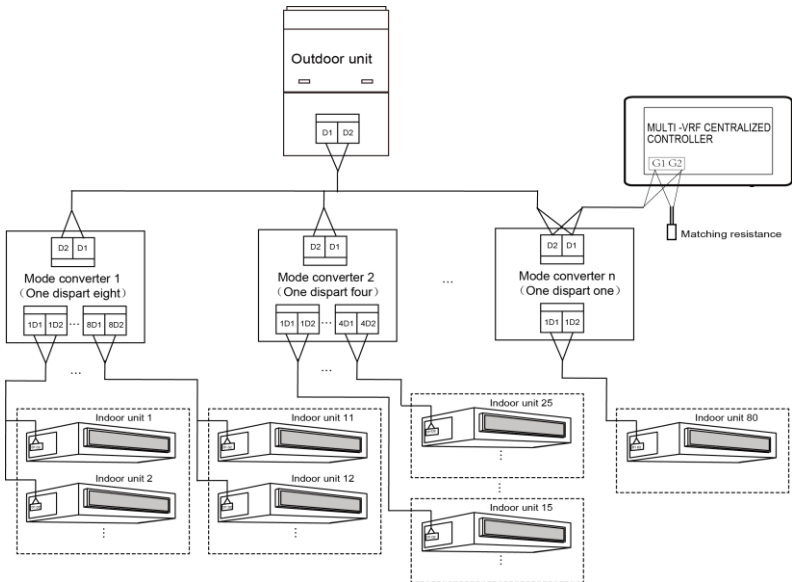

Fig. 3.6 Centralized Controller Connected with Heat Recollection Mode Converter Network
e. If the centralized controller is to be connected with the network of heat recollection, connect according to Fig.3.6. The method 2 is also applicable to centralized controller switching in heat recollection network.